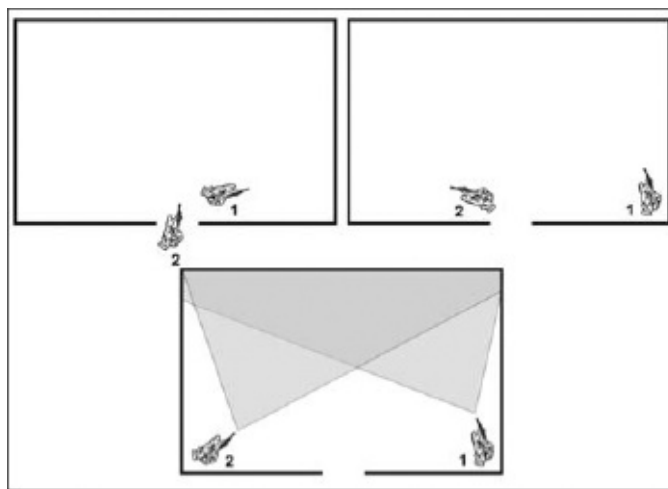
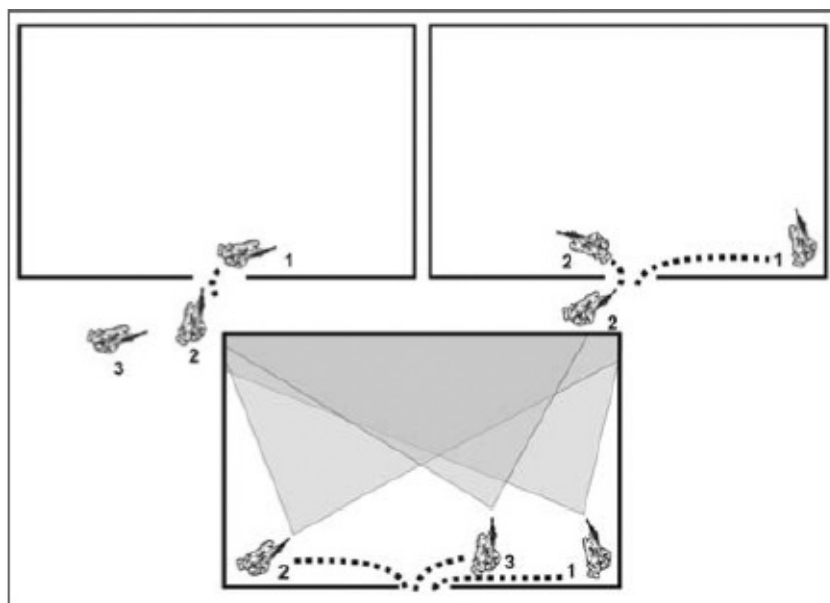

Figure 4-11. Points of domination and sectors of fire (two-man team, center door)
Figure 4-13. Points of domination and sectors of fire (three-man team, center door)
27. When full four-man teams are not available for room clearing, two- and three-man teams can be used. If the # 1 or # 2 man discovers that the room is very small, he can yell, “*Short room*” or “*Short,*” which tells the # 3 or # 4 man (whoever following the # 1 or # 2 man) to stay outside the room. Figures 4-11 and 4-12 show the points of domination and sectors of fire for a two-man clearing team. Figures 4-13 and 4-14 show the actions for a three-man team.